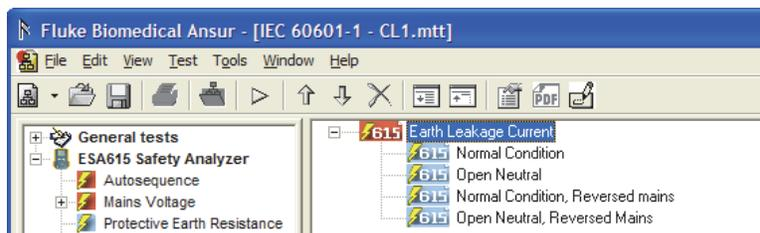

Figure 4-14. Add an Earth Leakage Current Test
1. Make a new test template and add an Earth Leakage Current test group as shown in Figure 4-14.